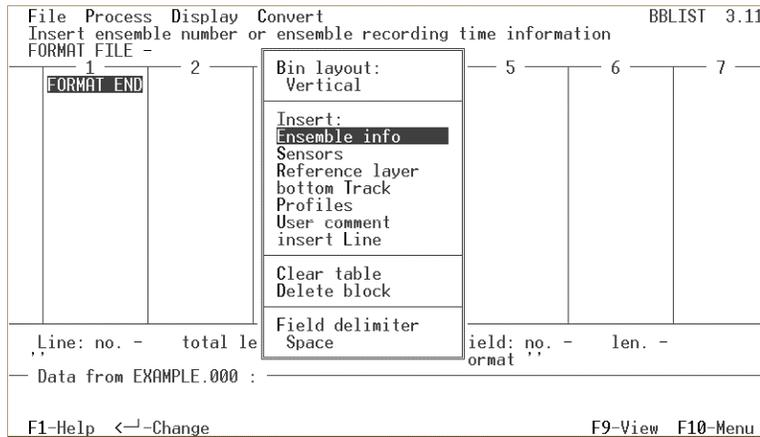

Figure 11. Define Format Selection Menu
- a. Select **Convert, Define Format**. When you first enter this screen, *BBLIST* displays only a **Format End** marker. To begin entering data fields, press <End> to display the **Define Format** selection menu (Figure 11, page 17). If you make a mistake, select delete block and re-enter your choice.